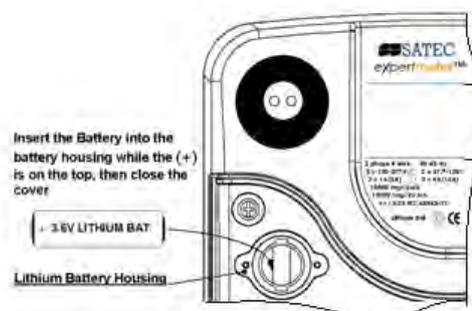

Figure 29: Replacing the 3.6V Lithium Battery
3. Replace the battery - with the plus towards the outside, as in figure 29, and close the battery housing